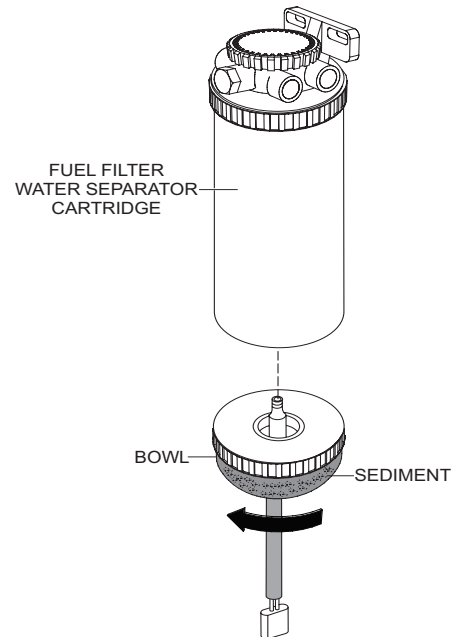

**Figure 62. Fuel Filter Cartridge Replacement**
1. Use a filter wrench to remove the fuel filter cup (Figure 62) from the fuel filter body.